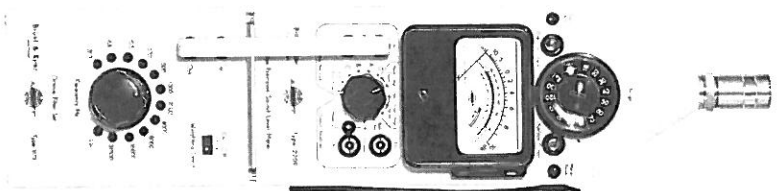

Fig.3.2. *The 1613 mounted on the Impulse Precision Sound Level Meter Type 2209*
3. Plug in the Connecting Bar JP 0400 supplied with the 1613 to connect the Sound Level Meter and the Filter Set. The portable analyzer thus obtained is shown in Fig.3.2.